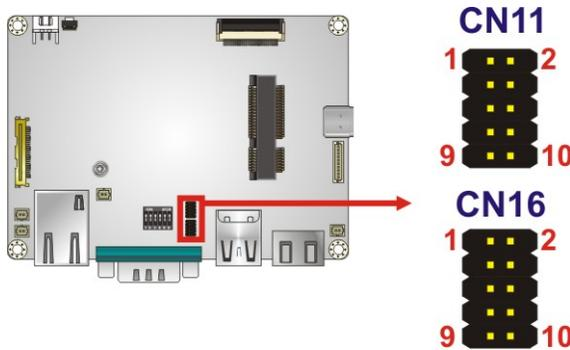

Figure 3-9: General Purpose Connector Locations
- CN Location:** See **Figure 3-9**